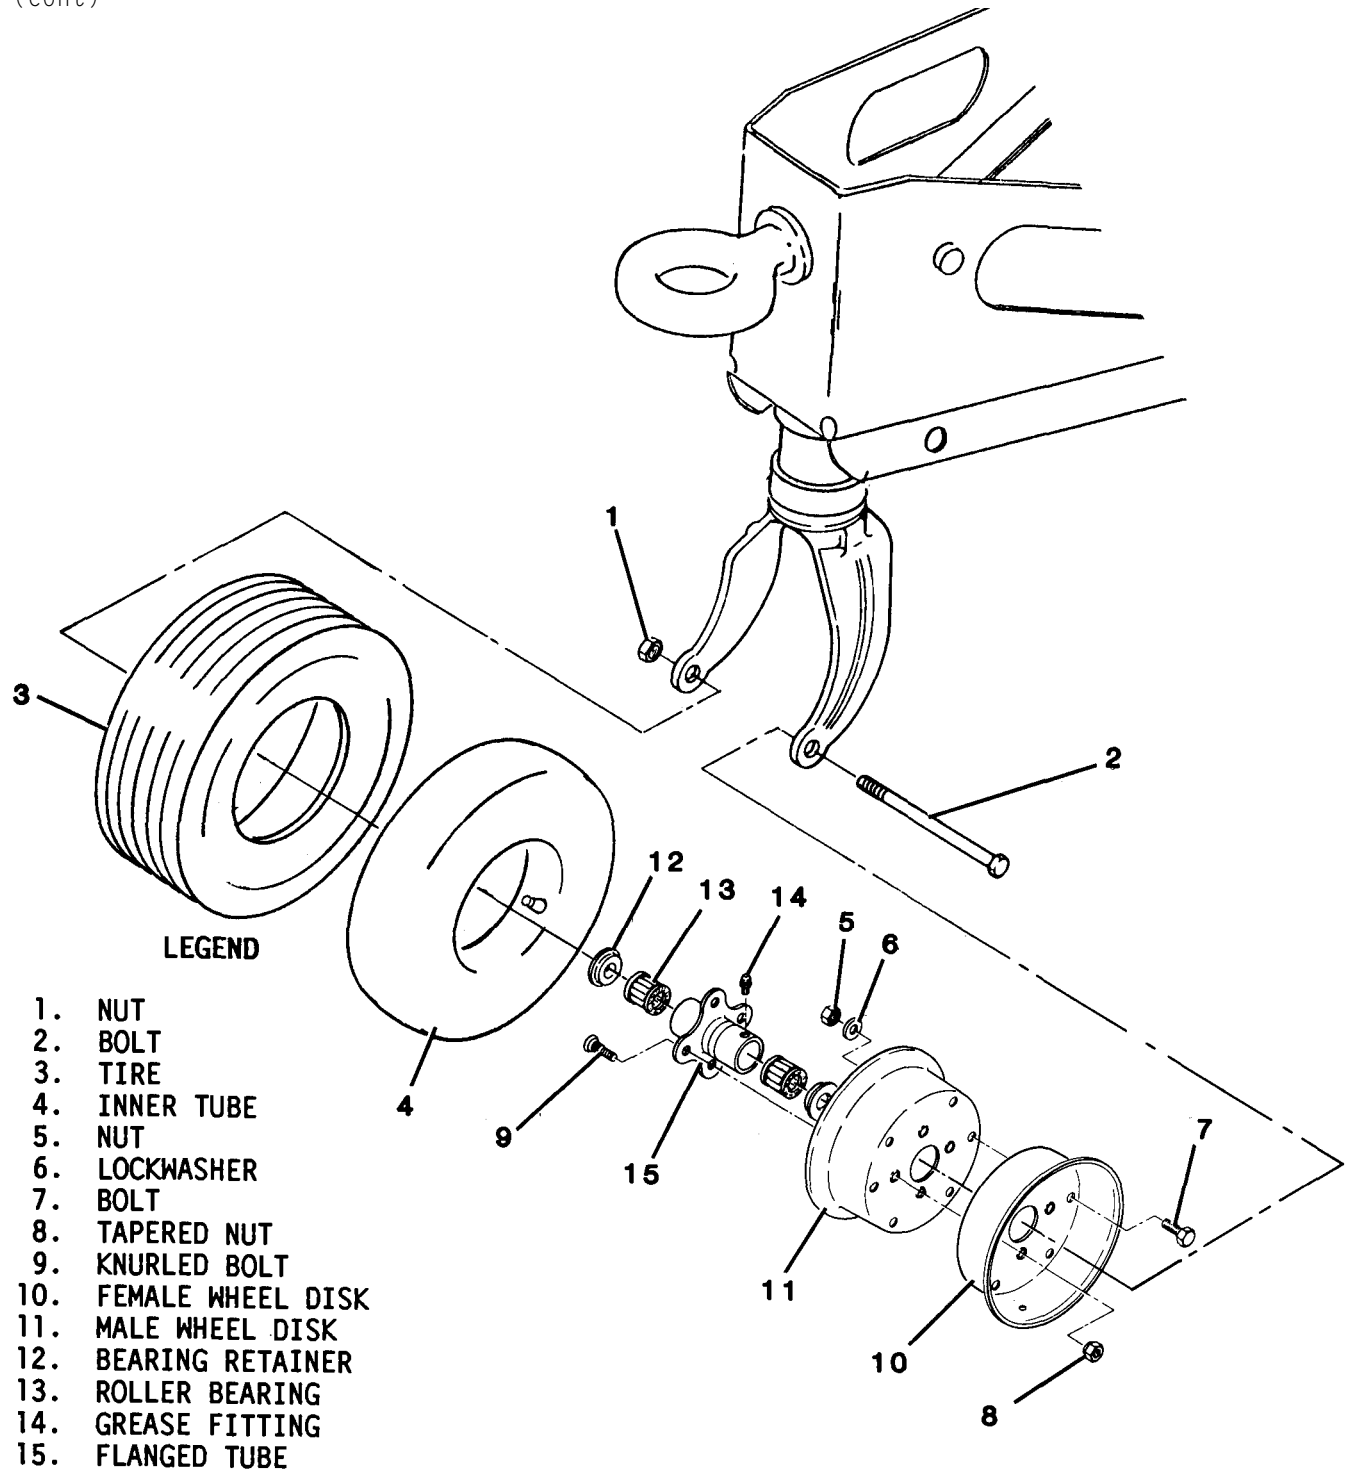

Figure 4-61. Swivel Caster Wheel and Tire
(1) Set handbrake and chock both wheels.
(2) Loosen nut (1, figure 4-61).